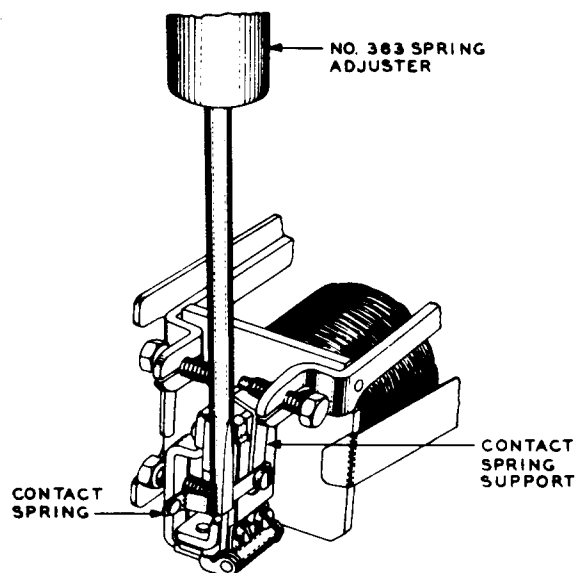
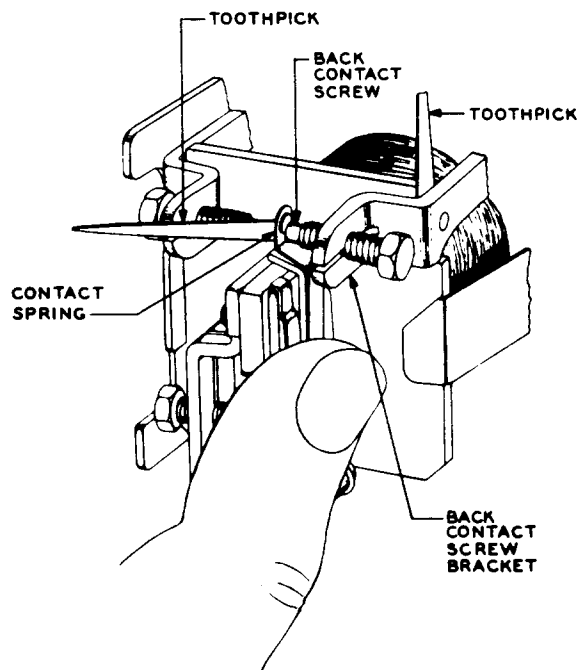

Fig. 13 - Method of Adjusting Flexible Contact Spring
Fig. 14 - Method of Reducing Contact Spring Tension
(1) **Flexible Contact Springs:** To adjust the flexible contact spring slightly loosen the contact spring retaining screw with the R-2739 screwdriver. Swing the contact spring out toward the front until it is in a horizontal position. Adjust it with the No. 363 spring adjuster applied as shown in Fig. 13. Reposition the contact spring and tighten the retaining screw securely. Check the pressure of the spring against its support. If the pressure is found to be excessive, force the back contact screw brackets slightly away from the contact spring by inserting a toothpick between the back contact screw bracket and the front spoolhead. Then hold the armature manually operated as shown in Fig. 14 and force the contact spring back toward the back contact screw with the flat end of another toothpick. Repeat this operation until the required tension is obtained. Remove the toothpick from the contact screw bracket. After making this adjustment, adjust for contact separation and check that the contact alignment is satisfactory.